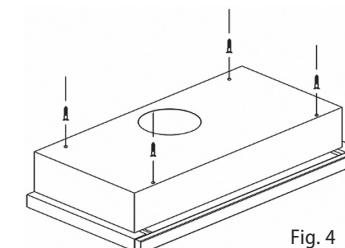

Fig. 4
- Fix the unit to the bottom side of the cupboard using the supplied screws (Fig. 4).